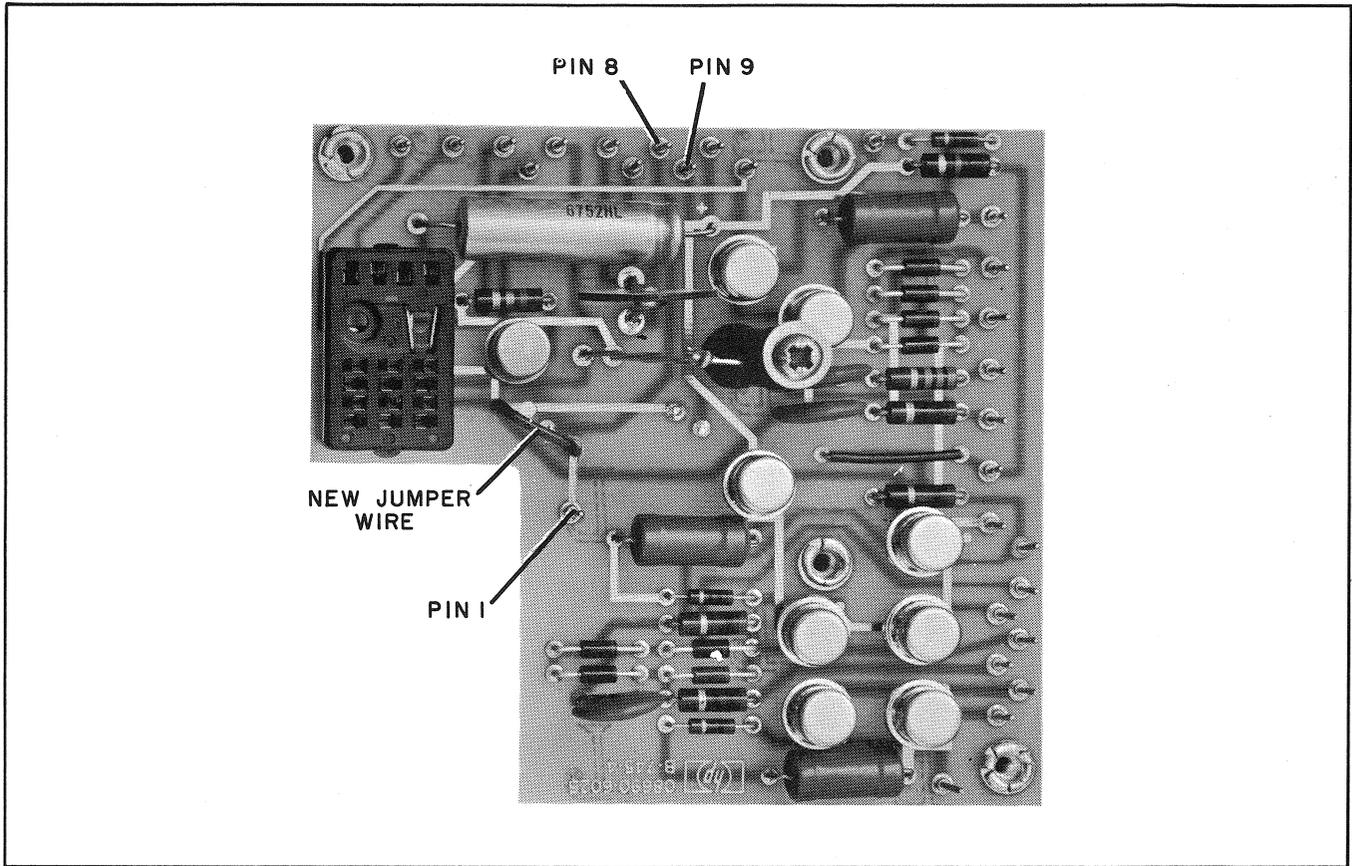
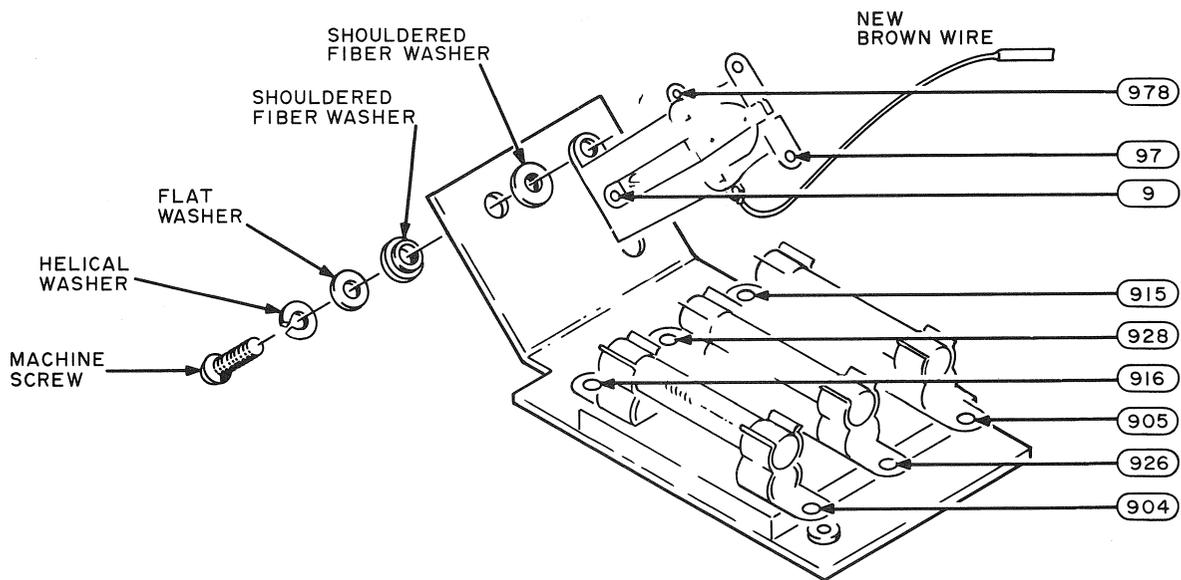

Figure 2. Installation of Jumper Wire on Modified A9 Boards
Figure 3. Relay Mounting Details
Some instruments will contain modified A9 Boards with a hole drilled in the printed circuit path between the anode of A9CR17 and one of the old relay coil terminals. These boards also have a 56.2 Ω Resistor, R13, soldered on the back of the board. If your instrument contains one of these modified boards, connect the jumper wire as shown in Figure 2.
5. Assemble the new fuseholder and relay bracket as shown in Figure 3.
7. Install the new bracket in the same position as the old one and reconnect the leads to F3, F4, and F5. (Wire colors are shown in Figure 3.)
8. Remove the white/violet/gray wire connected to Pin #1 of the A9 Board (see Figure 2). Connect the wire to one coil terminal of the new pen lift relay as shown in Figure 3.
10. Remove the white and white/violet wires from Pins #8 and #9 of the A9 Board (see Figure 2). Pull these wires out of the wiring harness back to the point where the harness splits. Reroute the wires through the other branch of the harness to the new pen lift relay, connect the wires to the relay as shown in Figure 3.